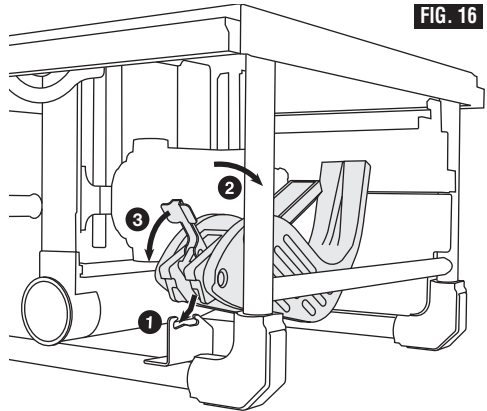

FIG. 16
1. Lock the Main Barrier Guard assembly into place in the same manner as you would attach it to the Riving Knife (Fig. 16).